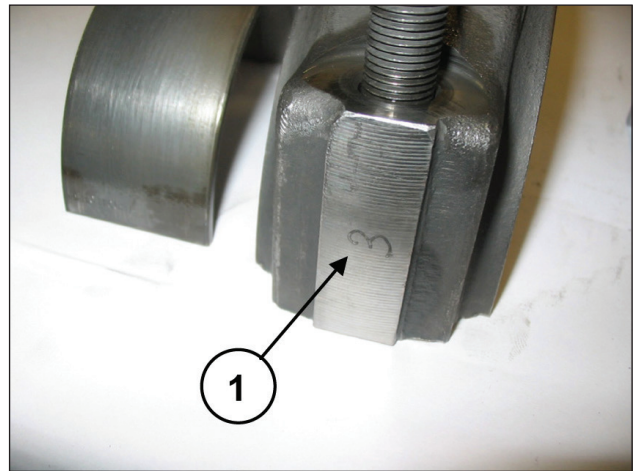

Fig. 25
To avoid possible errors, caps and half-conrods have been numbered on one side (pos. ①, Fig. 25).